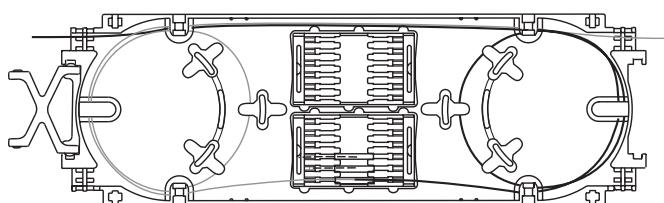

Figure 4
10. Install tray tabs to help contain fibers. (Figure 4)